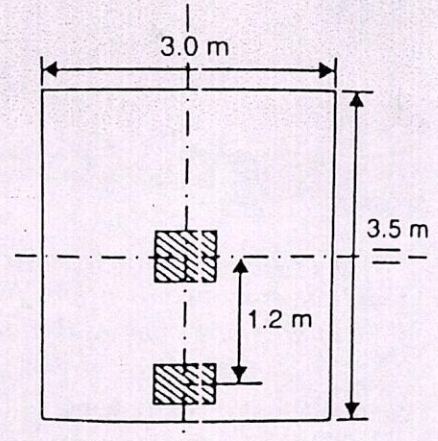

Figure-3
- IV. Obtain the values of short-span and long-span bending moments in case of an interior panel of a T-beam road bridge (Figure-3) with the following details. [10]